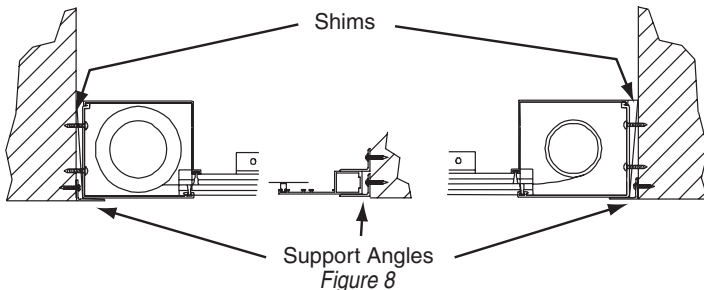

Figure 8
- ⑦ **For All: For Inside Mount**—Measure and cut the lower perimeter angles that will support the headboxes and side support flanges, making sure they fit the opening exactly. Make sure to cut notches for crank handle or limit switch buttons.
- ⑧ **For All: For Inside Mount**—Place the assembled skylight frame onto perimeter angles. NOTE: You may have to take the unit apart and reassemble it in the opening. Center the skylight frame in the opening and temporarily place shims (see Fig. 8). Once the frame is in place, measure the diagonals to make sure the unit is square. Adjust frame and re-shim until it is square, then install screws through endcaps to hold them in position.